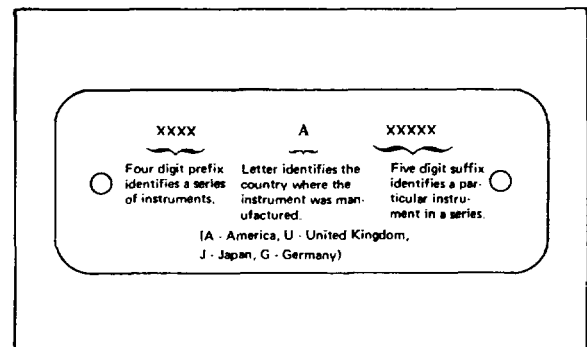

Figure 1-1. Instrument Serial Number.
b. Part 2 describes Indicator ID-2101/U (fig.1-1, Part 2). This display module is referred to as the Hewlett-Packard Model 34750A.
1-9. A three-section serial number (xxxxAxxxxx) is used to identify your Model 34702A. Figure 1-1 illustrates the meaning of the three parts of the number.